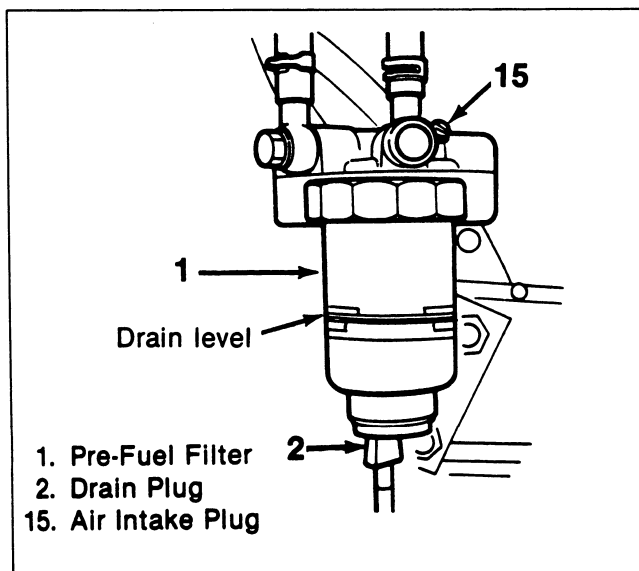
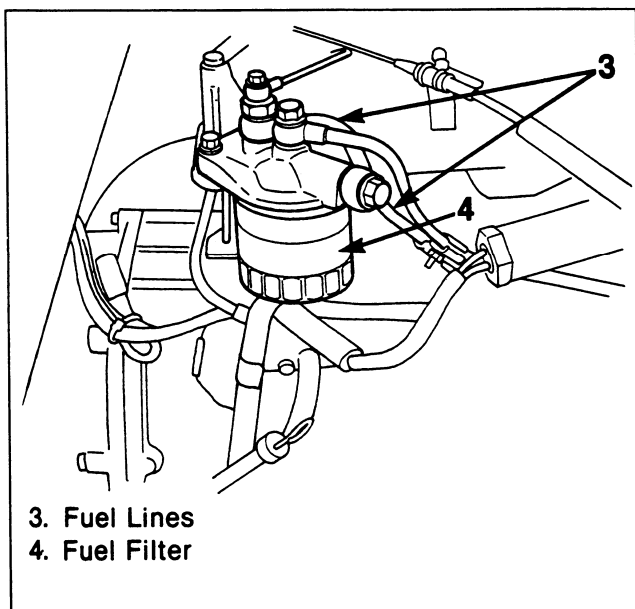

Figure 6. Pre-Fuel Filter
Figure 7. Fuel Filter
The purpose of the fuel filters is to clean the fuel of any dirt particles that can cause wear on the fuel injection nozzle's sliding surface; and to separate any water from the fuel, which is ever-present from the condensation in the fuel tank. The pre-fuel filter (water separator) is located between the fuel tank and the injection pump (figure 6). The secondary fuel filter is located between the fuel pump and the injection pump (figure 7).
1. Loosen the air intake plug (15) and drain plug (2) by turning them counterclockwise (figures 6 and 8).
↔ Remove or Disconnect (Figures 7 and 9)
↔ Install or Connect (Figures 7 and 9)